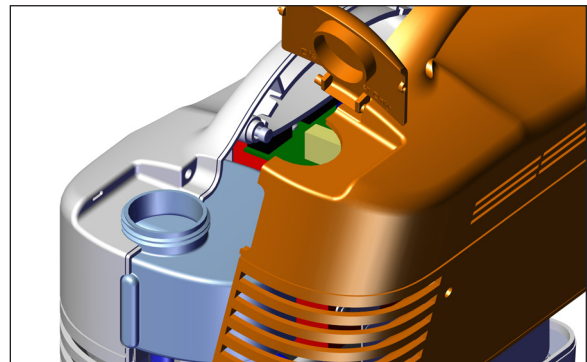

Figure 21 - Step 6 Lift rear enclosure with lid up and away
6. Lift rear enclosure with lid up and away (Figure 21).